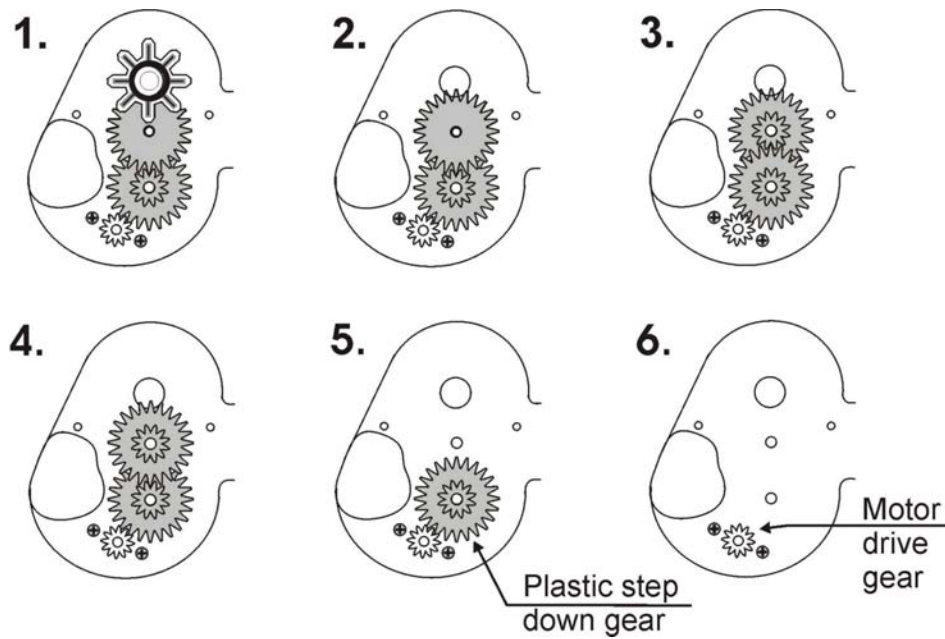

Figure 17: Gear Box Assembly
4. Remove the gears in the order as shown in Figure 17.